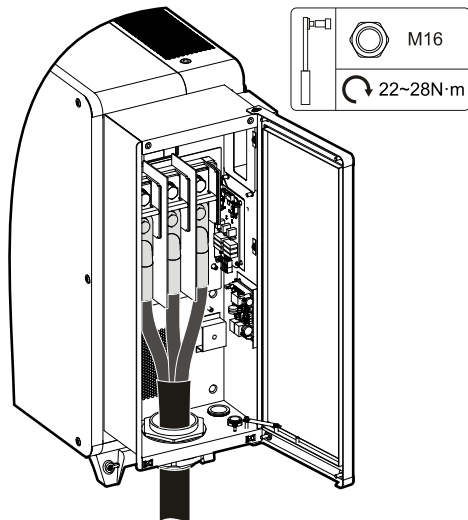

Figure3-33 Connect the AC output wire
Step 3 Loosen the external forced cable fixing head of AC terminal, draw the L1, L2, L3 wires through the external forced cable fixing head, and use a wire stripper to strip the L1, L2 and L3 respectively, and crimp them to the terminal, and then connect to the AC output terminal block, as shown in Figure3-33.
Figure3-33 takes three-core wire as an example to connect. If selecting four-core wire that includes AC output wire and internal grounding wire, strip the insulation layer of four-core wire outside the inverter, draw the four-core wire through the external forced cable fixing head, and connect them to terminals.